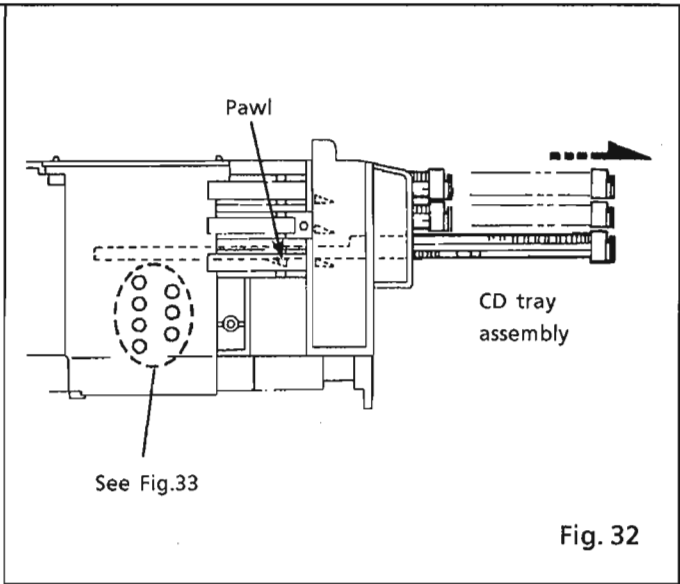

Fig. 32
11. Check that the driver unit elevator is seen from a hole (marked ⑩) on left side of the CD changer mech..(See Fig. 32 and 33.)
13. And, pull all 3 CD tray assemblies forward until they stop. (See Fig. 32.)